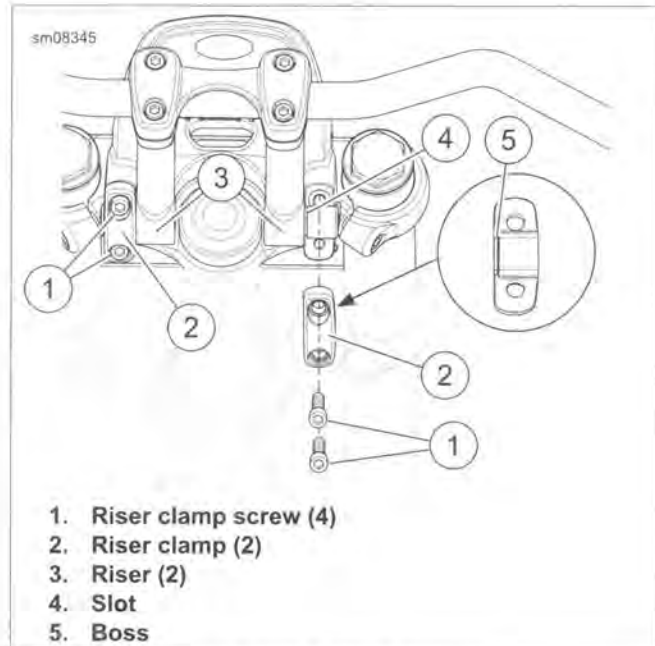

Figure 2-133. Riser Assembly
2. See Figure 2-133. Loosen four handlebar riser clamp screws (1).
3. Rotate risers (3) to desired position.